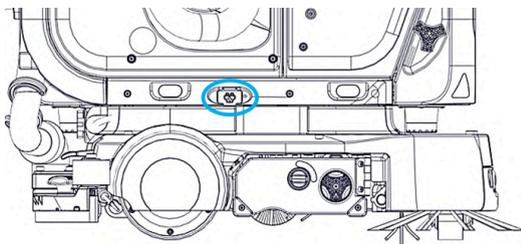
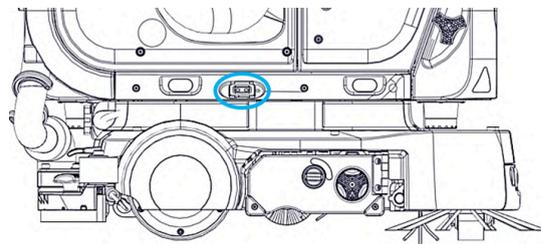

FIGURE 12-1
FIGURE 12-2
1. Lift the rubber cover on the manual charging port (**Fig. 12-1**) (**Fig. 12-2**).